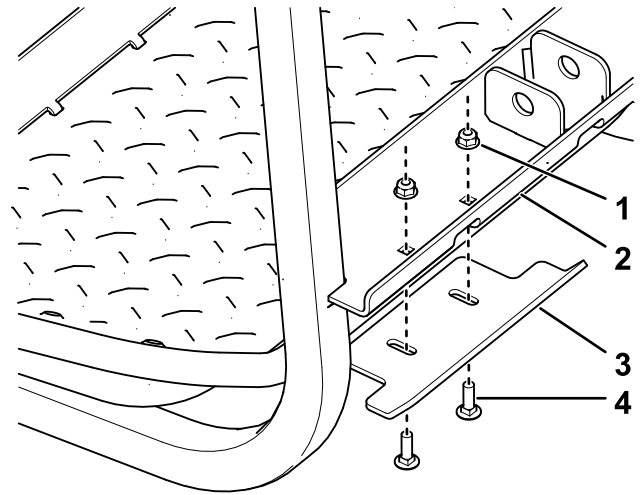

Figure 6
1. Install the lift bracket to the rear frame assembly as shown in Figure 6.